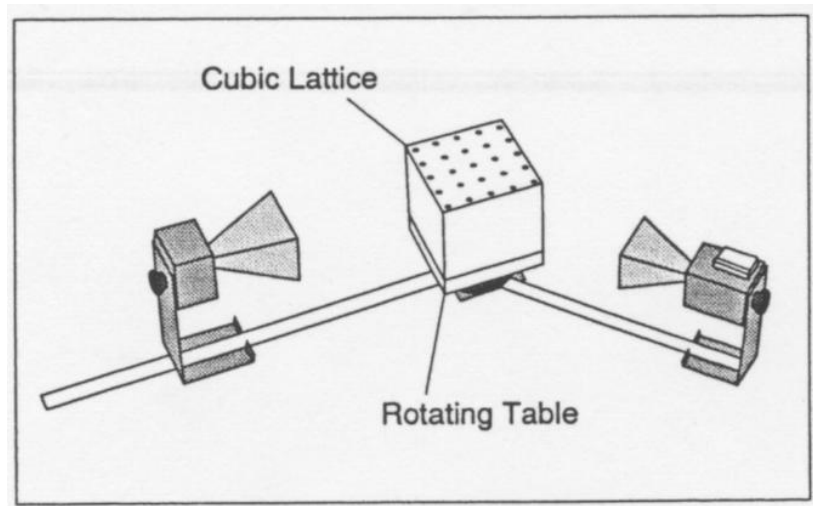

Figure 10: Set-up for Bragg diffraction.
such that the (100) planes are normal to the incident beam, see Figure 10. Set the receiver unit opposite the transmitter and set the receiver controls for a mid-range reading.
14. Rotate the crystal with the rotating table one degree clockwise. Move the receiver unit on the goniometer arm two degrees clockwise. Ensure that the crystal-receiver distance remains constant. Record the grazing angle of the incident beam and the meter reading. Repeat, rotating the receiver goniometer arm two degrees for every degree of rotation of the cubic lattice. Find the meter reading for grazing angles up to about 60 degrees. Graph the relative intensity of the diffracted signal as a function of grazing angle. Determine at what angles peaks in the signal are found. Using your data, determine the spacing between the (100) planes of the cubic lattice. Measure the inter-planar distance directly and compare your results. Assume the wavelength of the microwave source to be $\lambda = 2.85\text{cm}$.